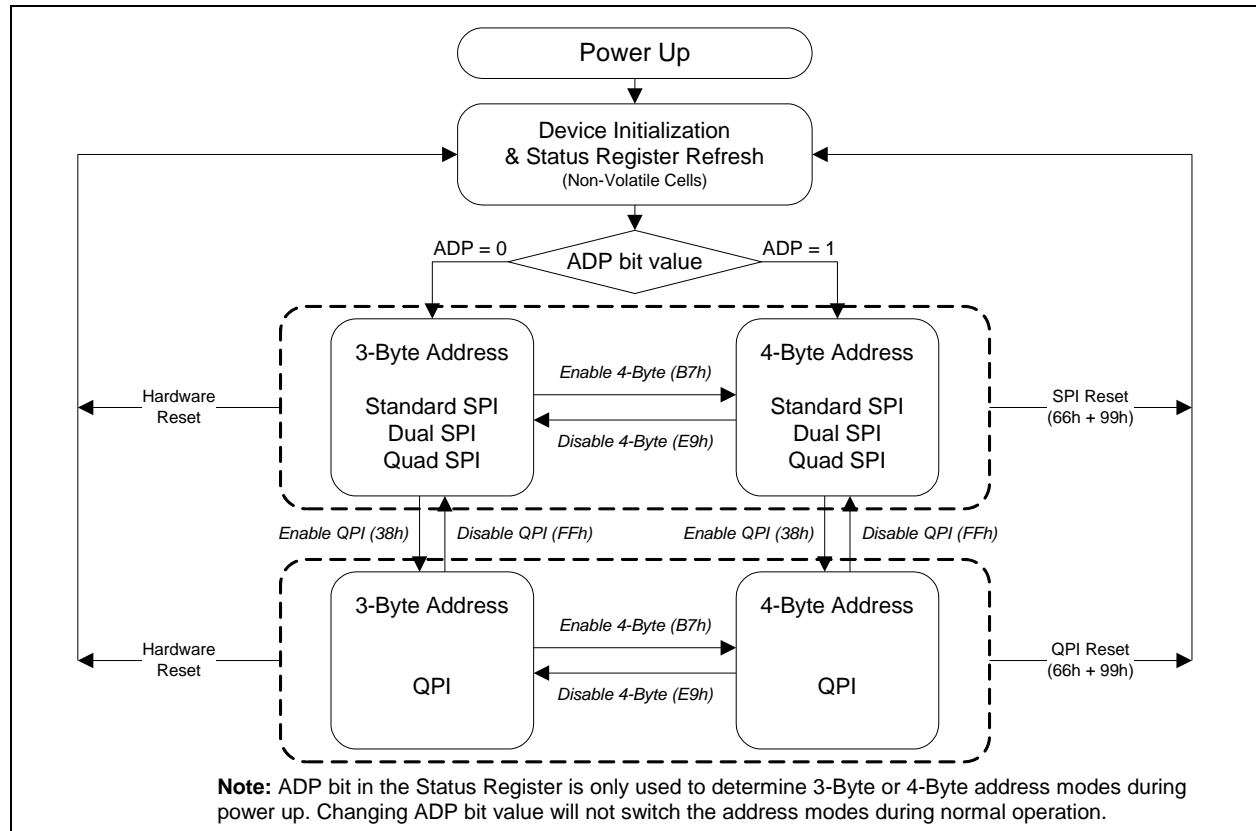

Figure 3. W25Q02NW Serial Flash Memory Operation Diagram
The W25Q02NW supports Quad Peripheral Interface (QPI) operations only when the device is switched from Standard/Dual/Quad SPI mode to QPI mode using the “Enter QPI (38h)” instruction. The typical SPI protocol requires that the byte-long instruction code being shifted into the device only via DI pin in eight serial clocks. The QPI mode utilizes all four IO pins to input the instruction code, thus only two serial clocks are required. This can significantly reduce the SPI instruction overhead and improve system performance in an XIP environment. Standard/Dual/Quad SPI mode and QPI mode are exclusive. Only one mode can be active at any given time. “Enter QPI (38h)” and “Exit QPI (FFh)” instructions are used to switch between these two modes. Upon power-up or after a software reset using “Reset (99h)” instruction, the default state of the device is Standard/Dual/Quad SPI mode. To enable QPI mode, the non-volatile Quad Enable bit (QE) in Status Register-2 is required to be set. When using QPI instructions, the DI and DO pins become bidirectional IO0 and IO1, and the /WP and /HOLD pins become IO2 and IO3 respectively. See Figure 3 for the device operation modes.